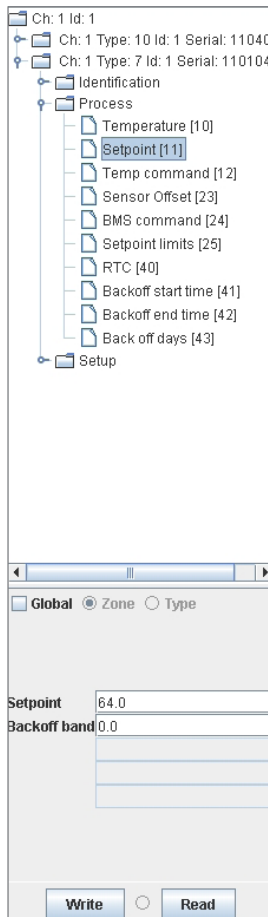

Figure 1
- » Click the “**Process**” tab; you can adjust your setpoint and setpoint limits. Remember to click “**Write**” after any changes. *See Figures 1 and 2 below.*